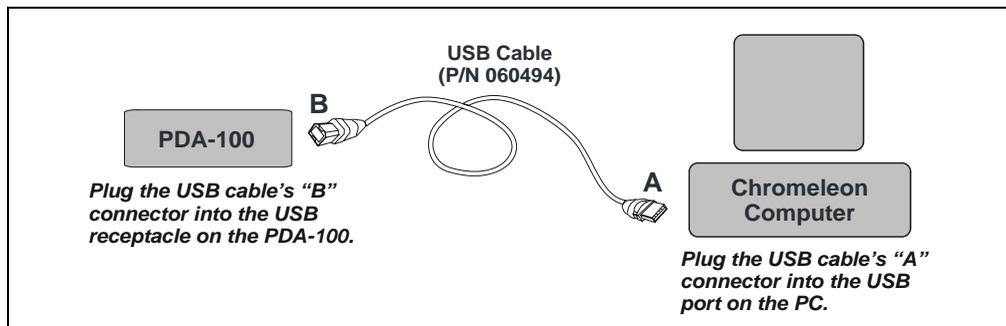

Figure B-1. PDA-100 Connected Directly to the Chromeleon PC
1. Plug the “A” connector of a USB cable (P/N 960777) into the USB port on the computer (see Figure B-1).